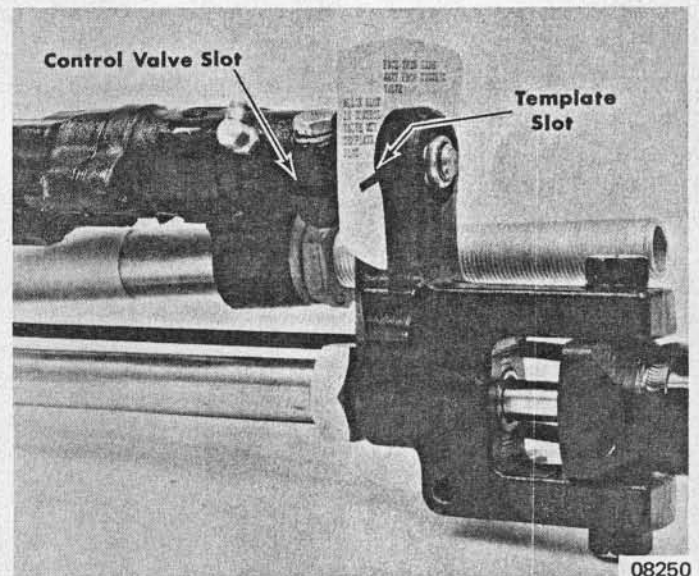

Figure 1. Template Location for Position Check
- a. Carefully cut out template (attached) and place template on control valve mounting bracket. (Figure 1)